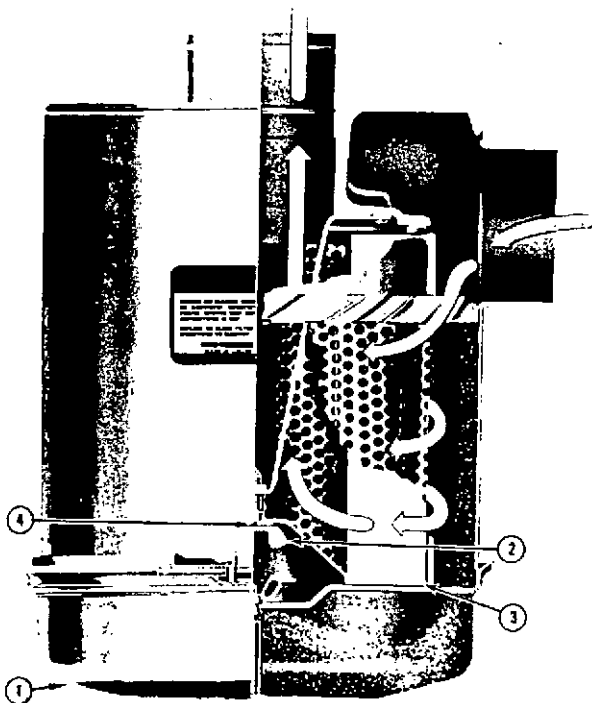
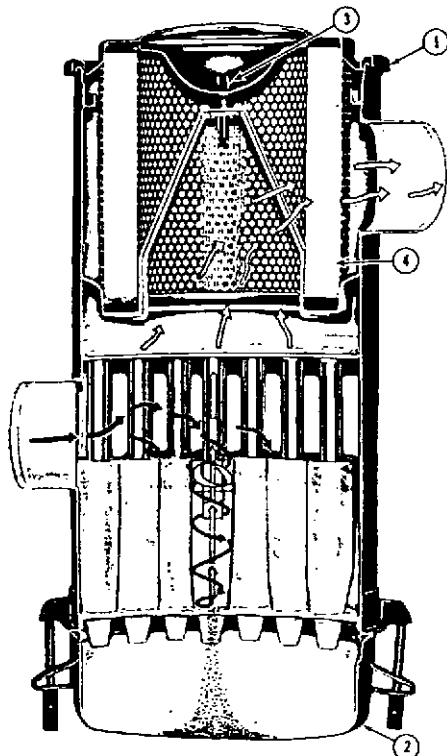

Fig. 5-18, V11005. Air cleaner — Cyclopac type
Fig. 5-19, V11004. Air cleaner — Donac lone type
1. Loosen clamps and remove cover (1, Fig. 5-19).
2. Unscrew wing bolt holding inner cover and element (3, Fig. 5-18) (4, Fig. 5-19) in position; remove element carefully so loose dirt will not fall into chamber (2, Fig. 5-18) (3, Fig. 5-19).
3. Remove dust cup (1, Fig. 5-18) (2, Fig. 5-19) and clean.
13. Be sure gasket washer (4, Fig. 5-18) is in place under wingnut before tightening.